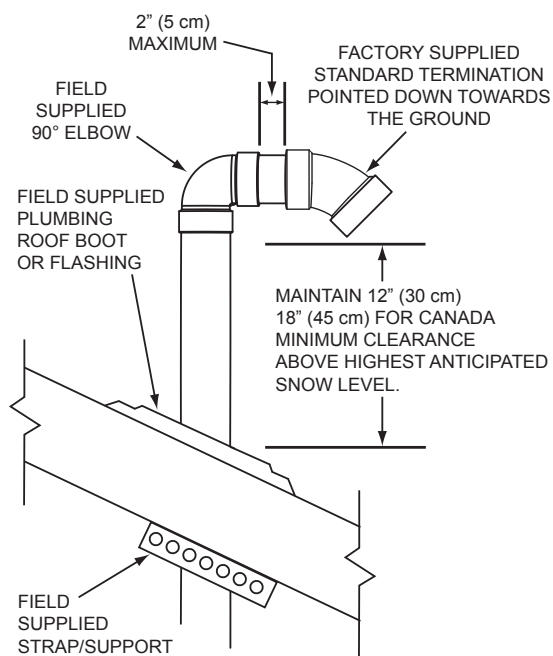
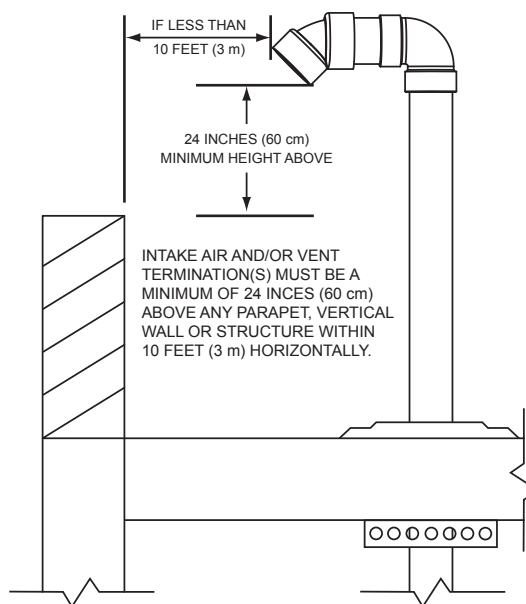
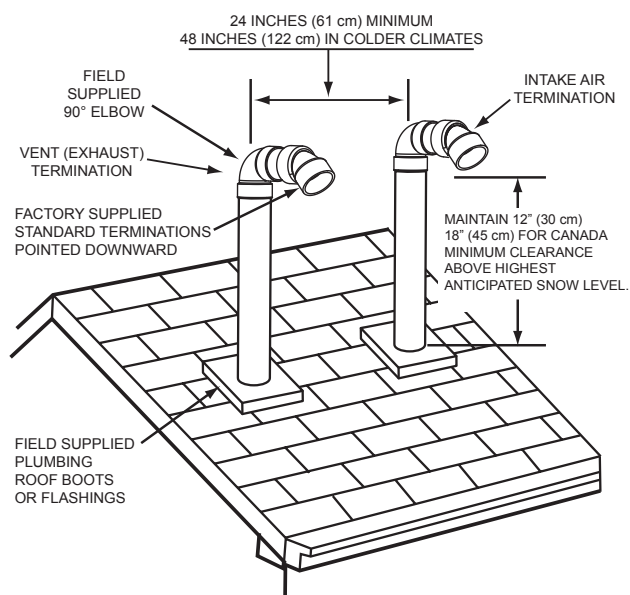

Figure 22. Vertical Termination(s) Installation
Figure 23. Vertical Termination Flat Roof Clearance - Intake Air and/or Vent (exhaust)
Figure 24. Vertical Termination - Direct Vent
2. If installing only the vent (exhaust) piping in a Power Vent configuration vertically through the roof; ensure that all exterior vertical clearance requirements shown in *Figure 22* (page 31) and *Figure 23* (page 31) are being maintained. These clearances and those cited by local and national codes must be maintained.
**Note:** On flat roof installations the vent termination must be a minimum of 24 inches (60 cm) above any parapet, vertical wall or structure within 10 feet (3 m) horizontally. See *Figure 23*.
requirements shown in *Figure 22* (page 31) and *Figure 23* (page 31) are being maintained. These clearances and those cited by local and national codes must be maintained.
**Note:** On flat roof installations the intake air and the vent terminations must be a minimum of 24 inches (60 cm) above any parapet, vertical wall or structure within 10 feet (3 m) horizontally. See *Figure 23* (page 31).
- The vent termination must be oriented facing downward as shown in *Figure 22* and *Figure 23* (page 31).
- The bottom edge of vent termination must be a minimum of 12 inches (30 cm), 18 inches (45 cm) in Canada, above average or expected snow level as shown in *Figure 22* (page 31).
- The intake air and vent pipes must penetrate the same side of the roof as shown in *Figure 24* (page 31).
- The intake air and vent terminations must be oriented facing downward and in the same direction as shown in *Figure 24* (page 31).
- The intake air and vent terminations must have a minimum separation of 24" (61 cm) measured on center line as shown in *Figure 24* (page 31). In colder climates this separation should be increased to at least 48 inches (122 cm).
- The bottom edge of the intake air and vent terminations must be a minimum of 12 inches (30 cm), 18 inches (45 cm) in Canada, above the average or expected snow level as shown in *Figure 22* and *Figure 24* (page 31).
- The distance between the closest vent and intake air terminations must be a minimum of 24 inches (61 cm) as shown in *Figure 24* (page 31). In colder climates this separation should be increased to at least 48 inches (122 cm).
8. Suspend the pipe(s) through center of hole using field-supplied metal strapping or equivalent support materials as shown in *Figure 22* (page 31).
9. Slide a roof boot or equivalent flashing over the pipe and secure roof boot or equivalent flashing to roof and seal around the flashing as shown in *Figure 22*, *Figure 23* (page 31), and *Figure 24* (page 31).
10. Install the factory supplied intake air and/or vent termination(s) using field-supplied pipe and one field-supplied 90° elbow as shown in *Figure 22* (page 31) The short section of pipe that connects between the field-supplied 90° elbow and the factory supplied termination must not be excessive in length. The exposed portion of this pipe shall be no more than 2 inches (5 cm).